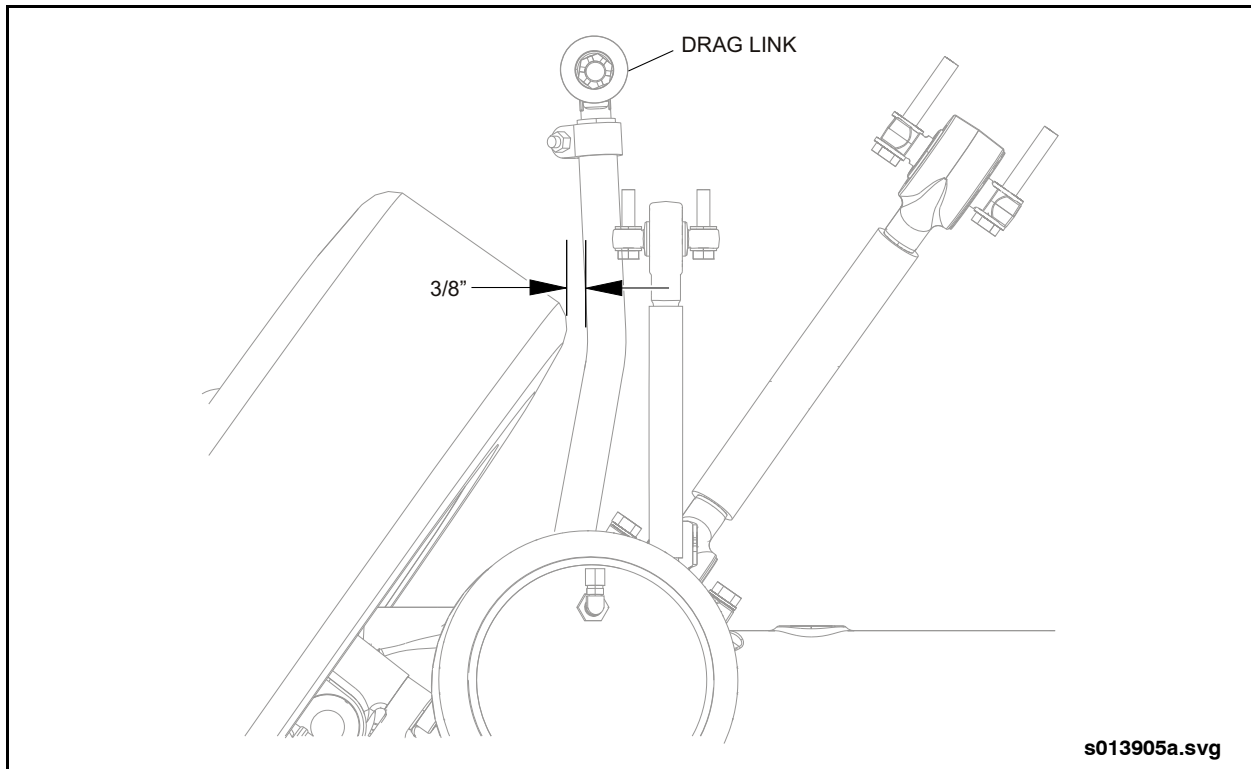
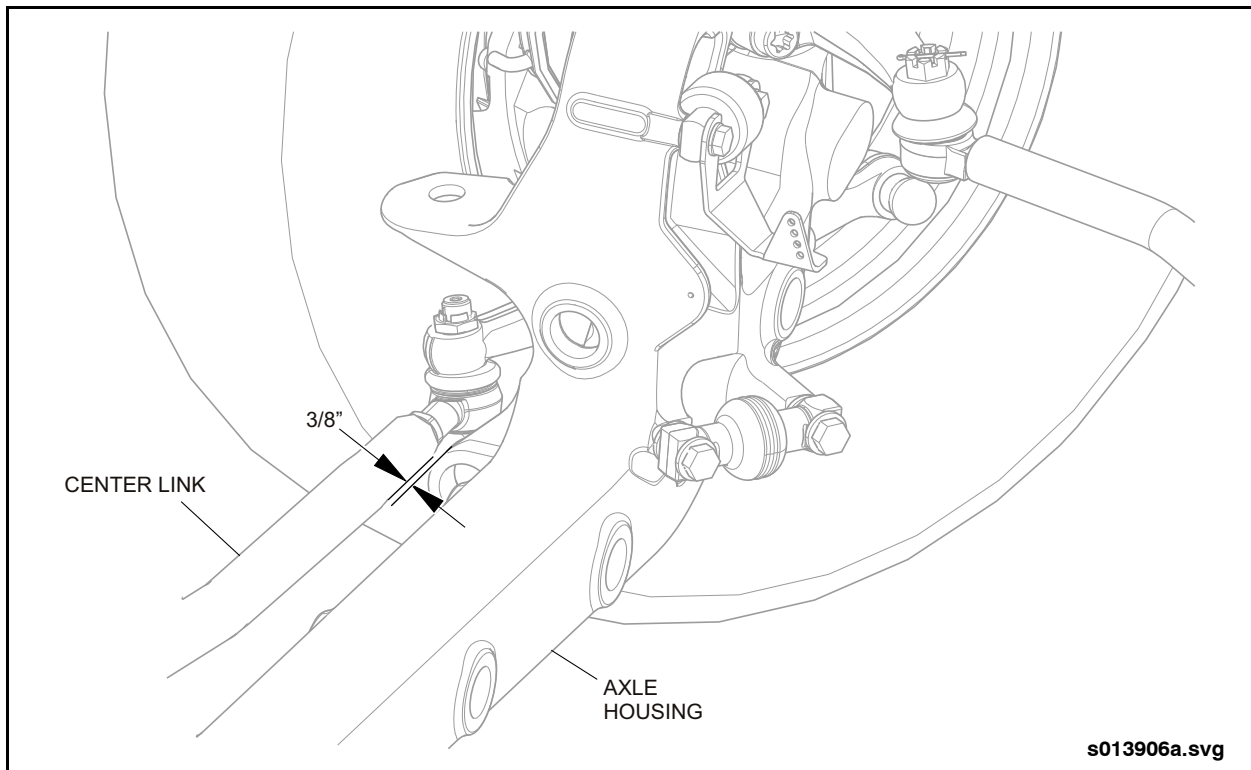

Fig. 1: Tire to Drag Link Clearance
Fig. 2: Center Link to Axle Housing Clearance
4. Steer wheels to the right and measure the distance from the tire to the drag link. See "Fig. 1: Tire to Drag Link Clearance" on page 3. Alternately measure from the center link to the axle housing. See "Fig. 2: Center Link to Axle Housing Clearance" on page 3. The smallest allowable gap is 3/8".